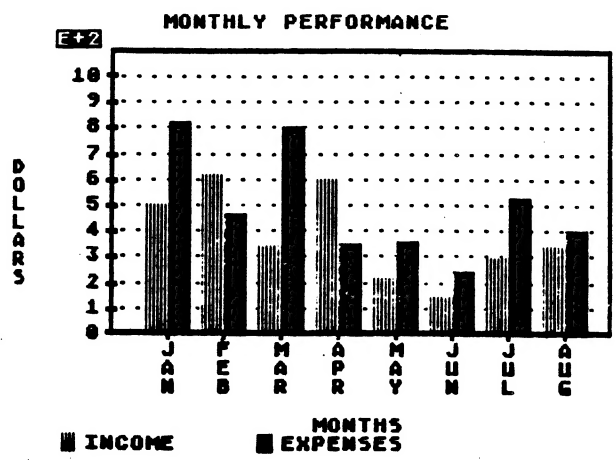

Fig. 1
- The club's expenses have been more each month than its income (See fig. 1),